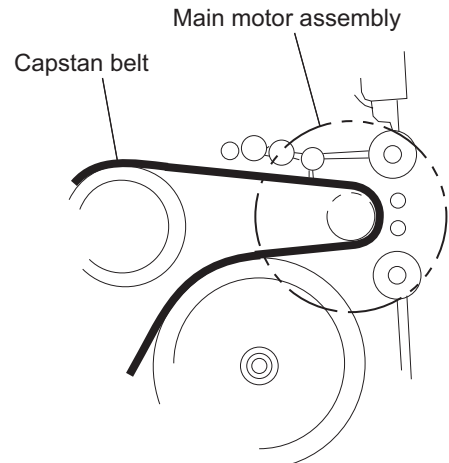

Fig.5
3.4.5 Removing the top woofer (See Fig.5)